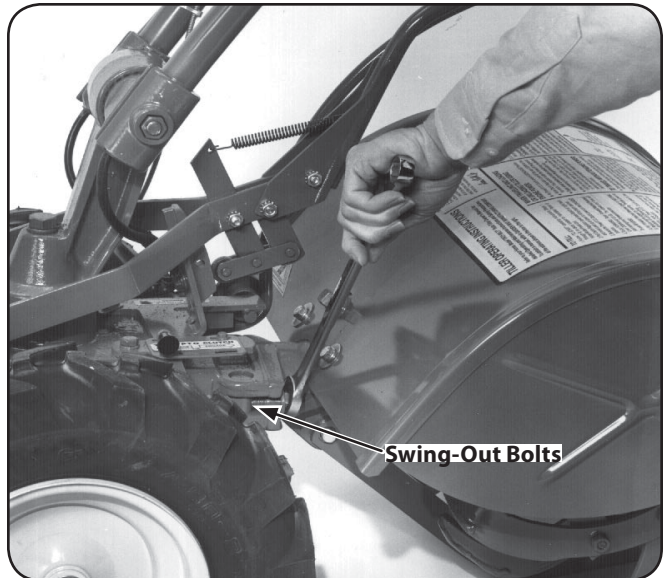

Figure 4-20
7. Loosen the two swing-out bolts that connect the power transmission to the tine attachment. See Fig. 4-20.